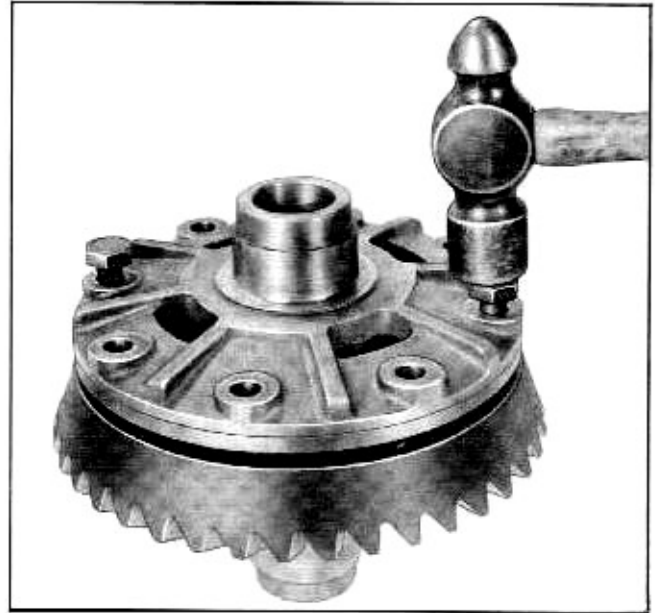

Fig. 4-27 Removing Ring Gear From Case
5. Using ball peen hammer, tap ring gear off of case (Fig. 4-27).